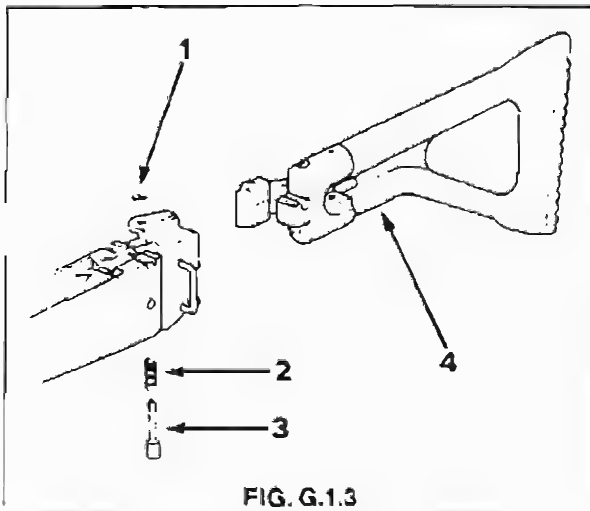

FIG. G.1.3
2. Clamp a suitable drift in a vice and position bracket butt over the top of drift so that head of connecting pin rests on top of drift. Press down on bracket butt until retaining ring can be removed from pin with a screwdriver or similar tool. Remove pin, spring and butt assembly. See Fig. G.1.2 and Fig. G.1.3.